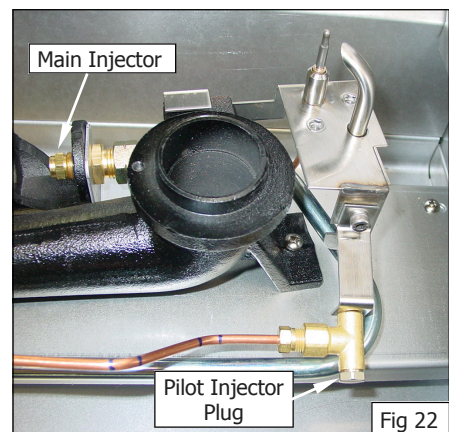

Fig 22
- a. Unscrew and remove the main injectors ($\frac{1}{2}$ A/F) from the gas cocks. (See Fig 22).